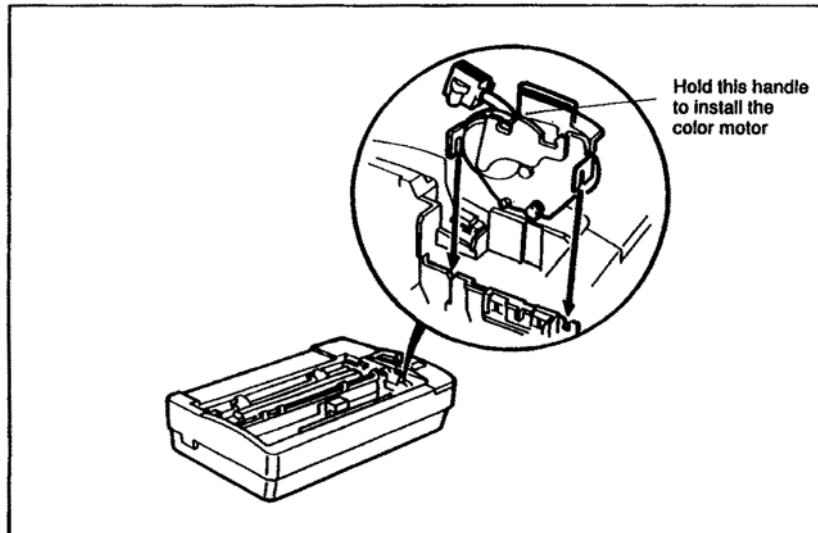

Figure A-2. Installing the color motor.
3. Hold the color motor so its gear side faces left. Fit the two slots on the front and rear bottom of the motor into the two notches on the top of the frame in the printer. See Figure A-2.